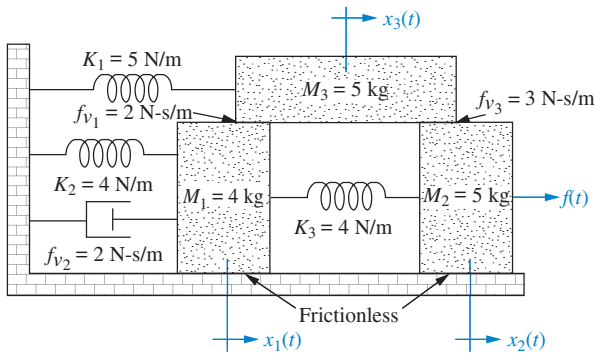

FIGURE P2.15
30. Write, but do not solve, the equations of motion for the translational mechanical system shown in Figure P2.15. [Section: 2.5]